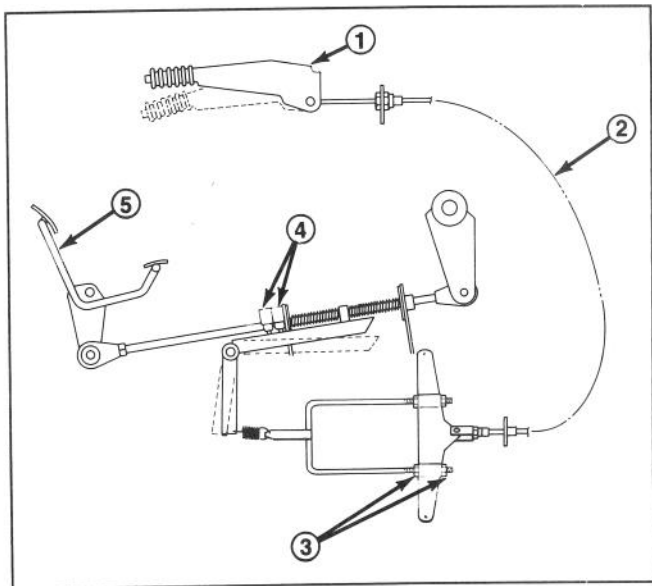

Figure 42
In time, the hand brake cable may stretch, causing the engine not to start. If this happens, adjust the cable (Fig. 42).
4. Adjust four U-bracket nuts (Fig. 42) equally so spring has tension. Adjustment affects operation of traction switches.
5. Adjust four U-bracket nuts (Fig. 42) so engine will start and run when hand brake is at fourth click, but will not start or run when hand brake is at second click.